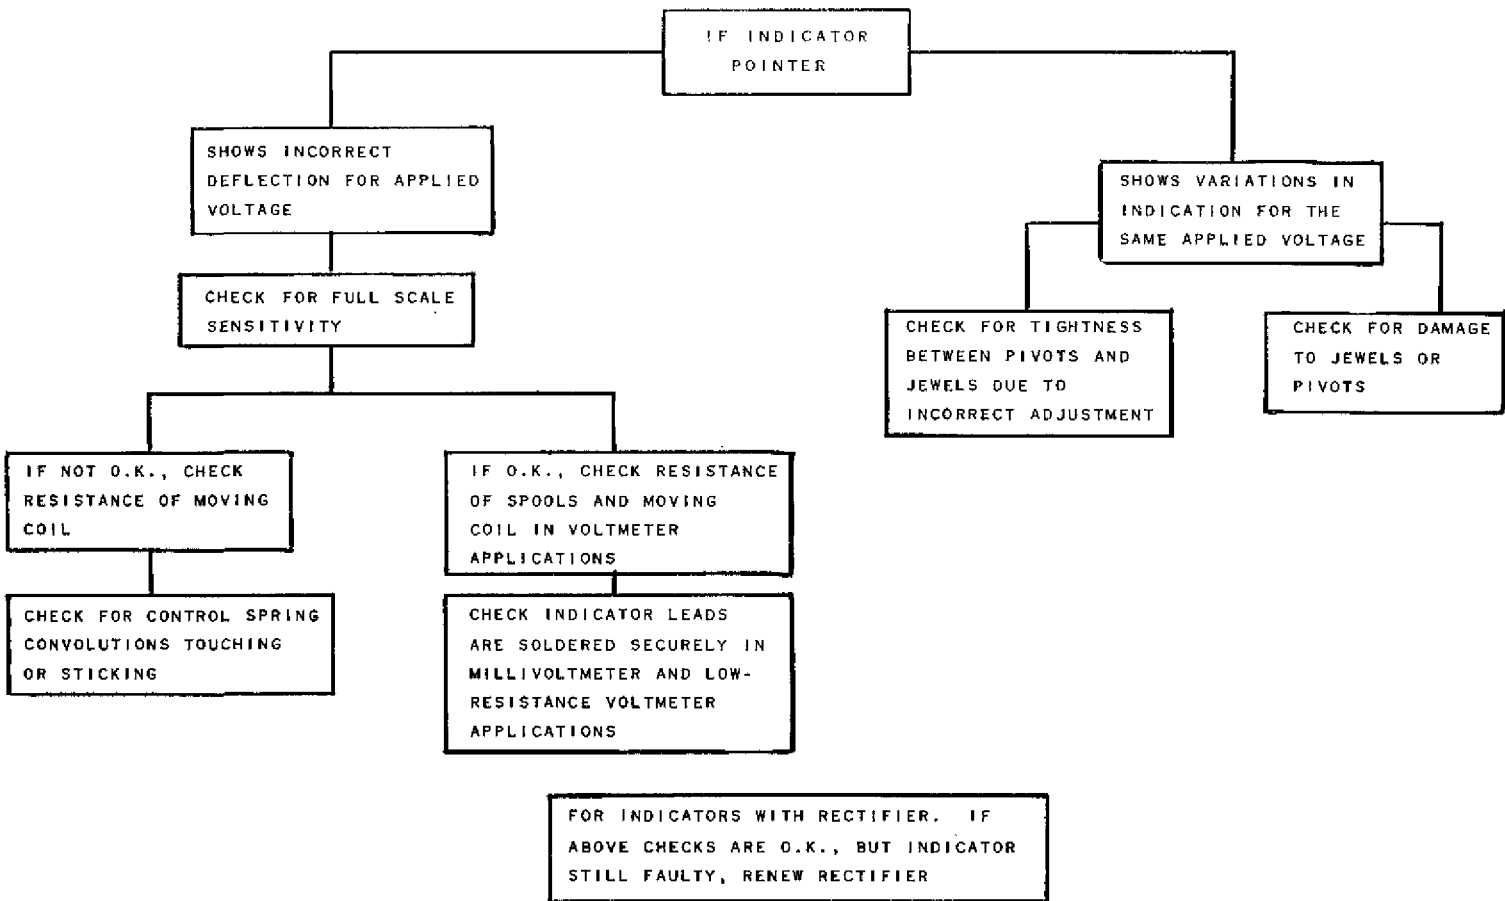

Fig. 4 Trouble shooting chart
9. Trouble Shooting. Refer to Fig. 4